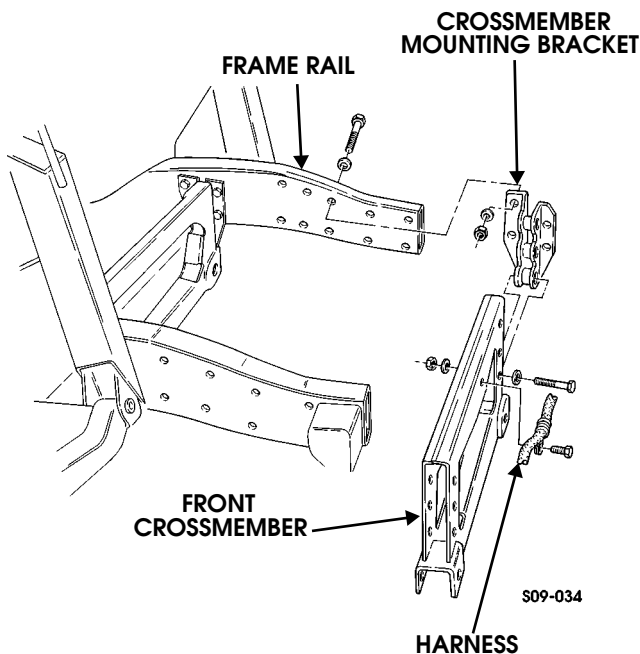

Figure 9-153: Front Crossmember Replacement
7. Remove bolt and clamp securing harness to front crossmember (Figure 9-153).
1. Position left and right crossmember mounting brackets on crossmember (Figure 9-153).